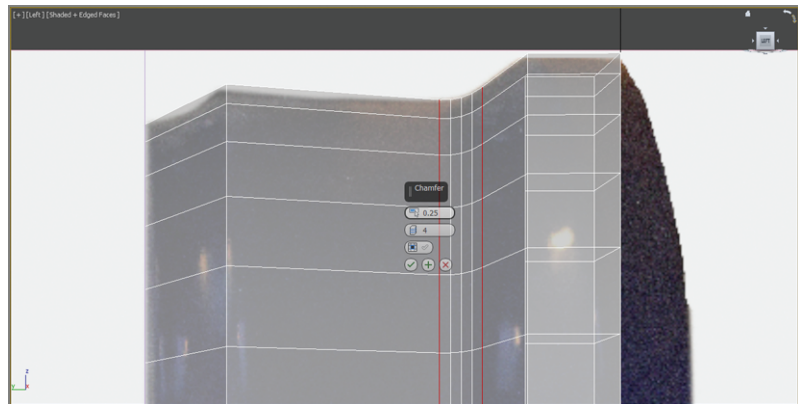

FIGURE 2.13 Select and loop the edge to prepare for chamfer.
12. Looking in the Left viewport, select and loop the middle edge, as shown in Figure 2.13 (Graphite Modeling Tools set > Modeling > Modify Selection > Loop), to select the entire edge loop.